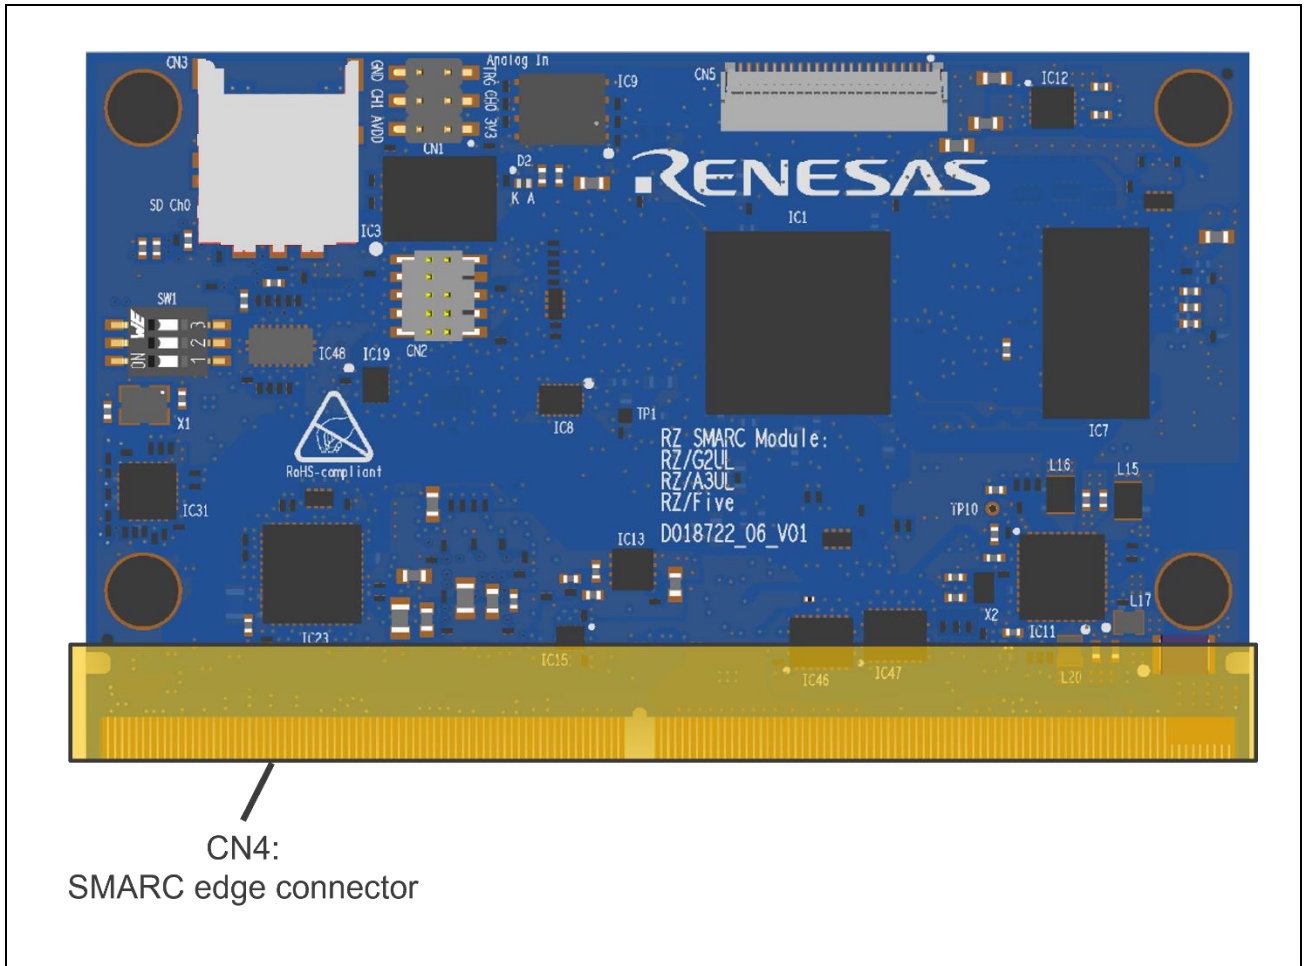

Figure 3.5 Layout of Carrier Board Connecting Pins
**Figure 3.5** illustrates the layout of Carrier board connecting connector pins. For the assignment of Carrier board connecting connector pins, please refer to the section 4 “MODULE PIN-OUT MAP” of the document “SMARC module 2.1 Specification (sget.org)”.